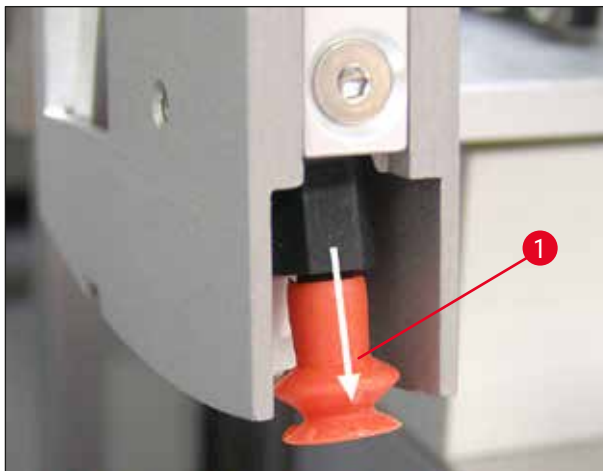

Fig. 51
- The suction cups have to be replaced if they have visible deformation or damage. To do so, pull the suction cups downwards and off using your fingers (→ Fig. 51) and replace them with new suction cups.